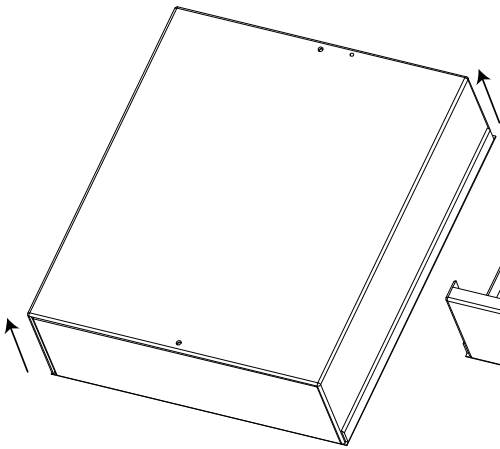

Figure 1.
1. Unscrew and remove the cover of the EURO 46 (Figure 1).